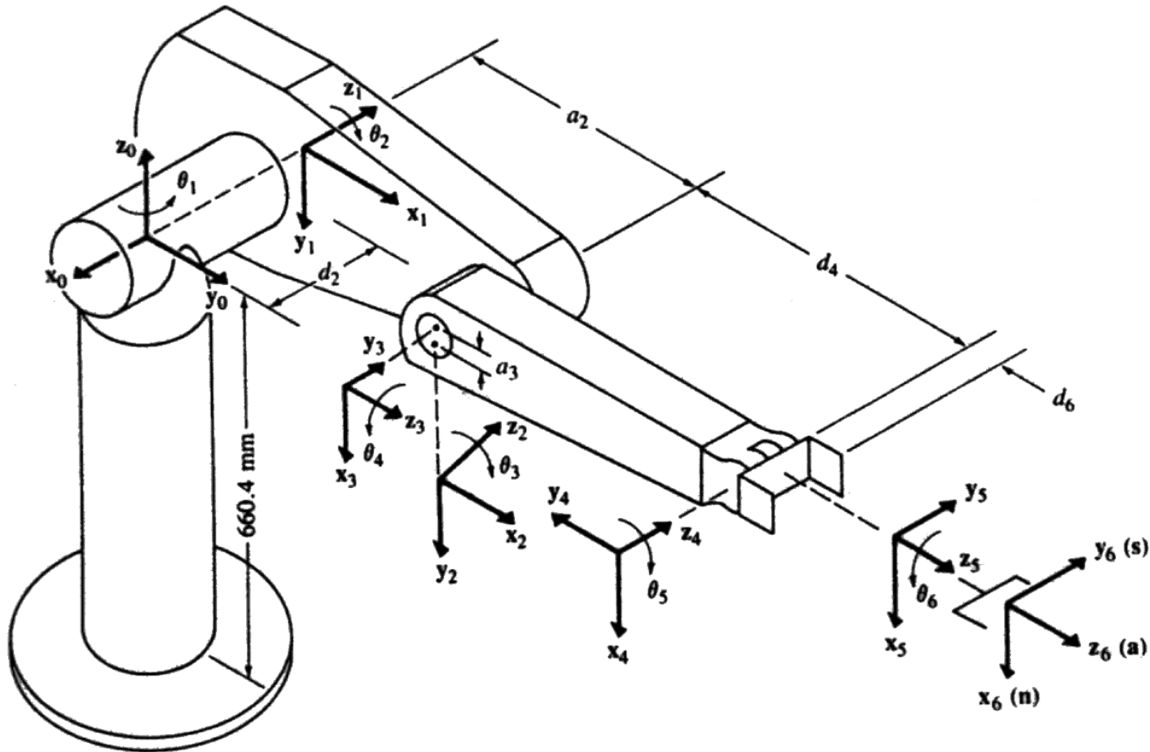

Figure 5: PUMA560 manipulator.
**Task 3.7 (4 points) Singularities of a PUMA560:** Consider a PUMA560 manipulator as shown in figure 5. Explain at least three of the possible singular configurations!